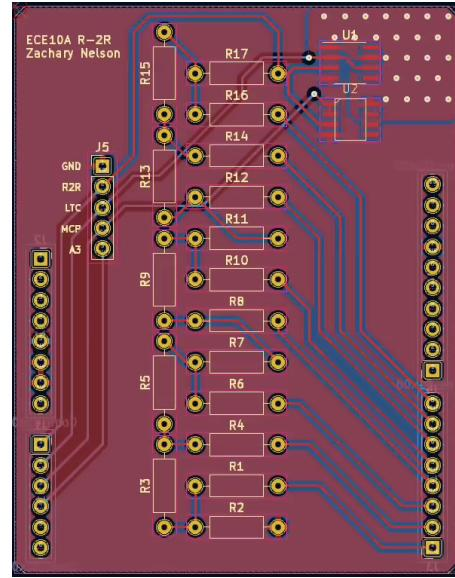

Figure 57: Adding labels using the Silkscreen label. Your finished board should look something like this.
9. Add a label silkscreen. Attach your name to the PCB so that it can be found in class. Use the text tool for this. See Figure 57. You should also label the outputs on the 4 pin header to easily connect to them later. You can see in this figure that I have corrected the 5 position header and how minute of a difference it is from the previous 4 position header.